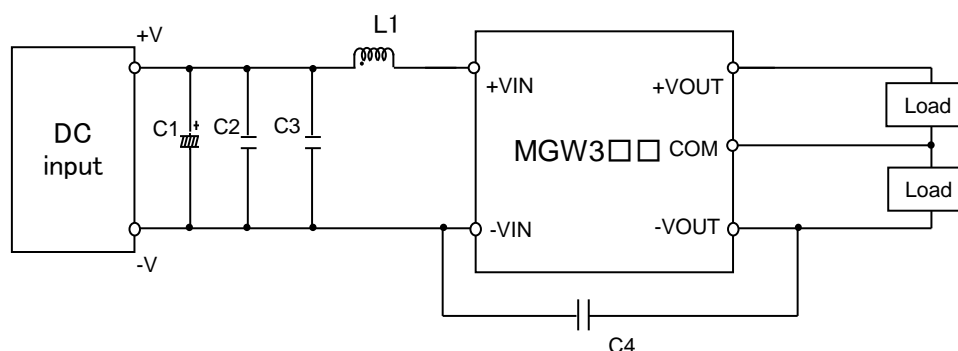

Fig.1 Testing circuitry
| 8 | Static electricity immunity test | (1) Applied voltage ±4kV (2) At rated input and load (3) Testing circuitry Fig.1 | (1)No protection circuit fail. (2)No output voltage drop due to control (3)No any other function fail. | 7 | 0 |